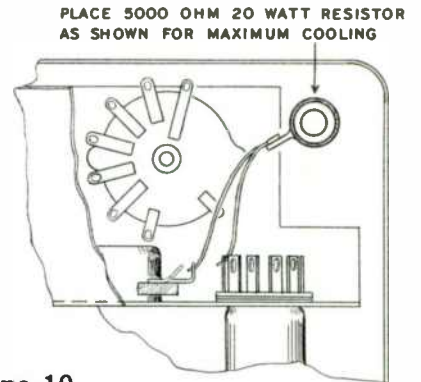

Figure 10
- ( ) Connect a wire between a second twisted mounting prong (S) on the filter condenser and through lug 2 (NS), through lug 3 (NS) on the 600  $\Omega$  oscillator control to lug 1 (NS) on the 10 K $\Omega$  meter control.
- ( ) Connect a wire between lug 1 (S) on the candelabra socket and lug 1 (NS) on the 600  $\Omega$  oscillator control.
- ( ) Connect a 330  $\Omega$  resistor between lug 1 (S) (2) on the oscillator control, through pin 7 (S) to pin 2 (NS) on the 6AU6 socket.
- ( ) Connect a wire between pin 5 (S) on the 6AU6 socket and pin 9 (S) on the 6CL6 socket.
- ( ) Connect a 150 K $\Omega$  resistor between pin 6 (NS) (use sleeving over this lead) on the 6AU6 socket and through pin 8 (S) to pin 3 (NS) on the 6CL6 socket.
- ( ) Connect a 47  $\Omega$  resistor between pin 1 (S) and pin 7 (NS) on the 6CL6 socket.
- ( ) Connect a 47 K $\Omega$  1 watt resistor between pin 2 (S) and through pin 6 (S) to pin 3 (S) (3) on the 6CL6 socket.
- ( ) Connect a 16  $\mu$ fd 150 volt electrolytic condenser with the positive (+) lead to pin 6 (S) (2) and the negative (-) lead to pin 2 (S) (2) on the 6AU6 socket. Use sleeving on both leads. Place condenser close to chassis.
- ( ) Install the line cord. Place it through the grommet in the rear edge of the chassis. Tie a knot for strain relief. Connect one lead to lug 1 (S) (2) and the other lead to lug 2 (S) (2) on the terminal strip.
- ( ) Connect a 20  $\mu$ fd 350 volt electrolytic condenser with the negative (-) lead to lug 2 (NS) on the candelabra socket and the positive lead (+) to pin 7 (NS) on the 6CL6 socket. Use sleeving on these leads.
- ( ) Connect a 5000  $\Omega$  20 watt resistor between pin 7 (S) (3) on the 6CL6 socket and lug 2 (S) (2) on the oscillator control. Leave the leads fairly long and dress as shown in Figure 10.
- ( ) Connect a 7 1/2" wire between lug 2 (NS) on the candelabra socket and lug 3 (S) on the output control.
- ( ) Connect a 3 1/2" wire between lug 3 (S) (2) on the oscillator control and lug 1 (NS) on the output control.
- ( ) Connect a 4" wire between lug 1 (S) (2) on the output control and lug 3 (S) (3) on the meter terminal board.
- ( ) Connect a 7" wire along the preceding wire between lug 2 (S) on the meter control and lug 2 (S) (3) on the meter terminal board.